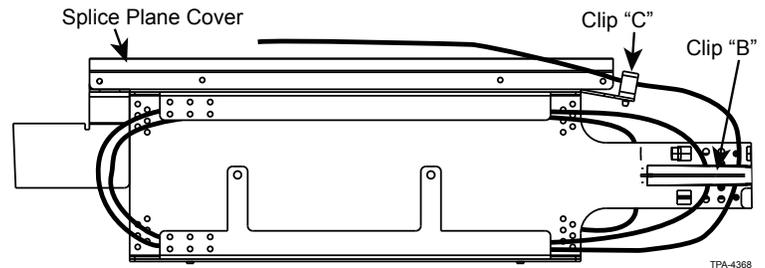

Figure 11
**Step 1:** Carefully turn the closure over until the splice plane is on top. Remove the splice plane cover (Figure 11).